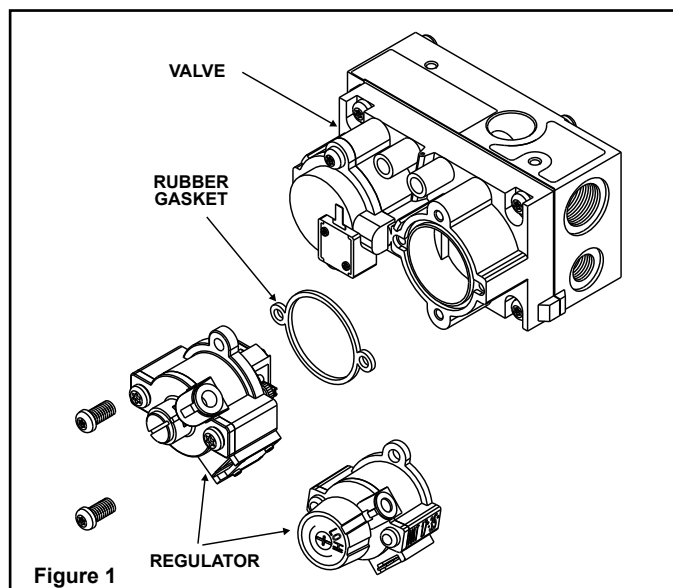

Figure 1
4. Using a #20 tamper-proof Torx, remove the regulator and rubber gasket on face of valve. See Figure 1. Discard both the regulator and gasket.
5. Install the new regulator with the new rubber gasket included in the conversion kit. See Figure 1.